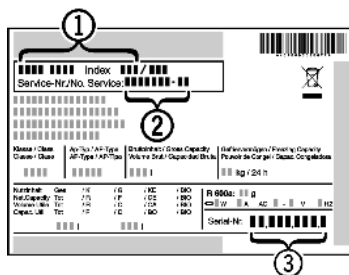

Fig. 11
- ▶ Read the appliance designation Fig. 11 (1), service No. Fig. 11 (2) and serial No. Fig. 11 (3) off the type plate located inside the appliance on the left-hand side.
- ▶ Notify the customer service, specifying the fault, appliance designation Fig. 11 (1), service No. Fig. 11 (2) and serial No. Fig. 11 (3).